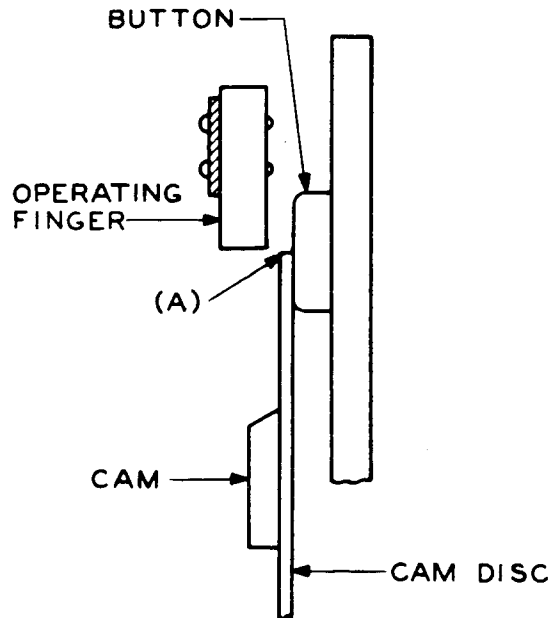

Fig. 5—Operating Finger Clearance
**3.08 Operating Finger Clearance:** Fig. 5, (A)—With the cam disc between the button and operating finger so the operating finger clears